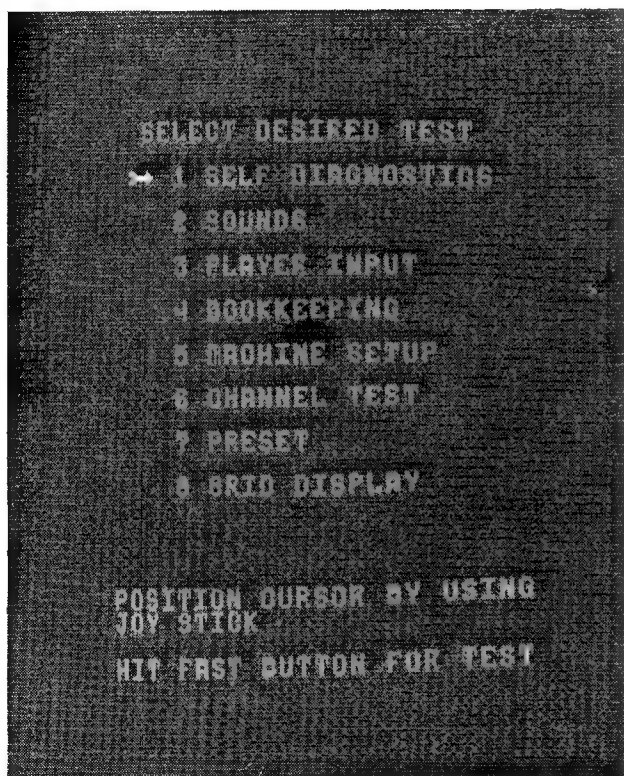

Figure 3-1 Self-Test — Menu
The Self-Test mode has eight (8) major categories as illustrated by Figure 3-1.